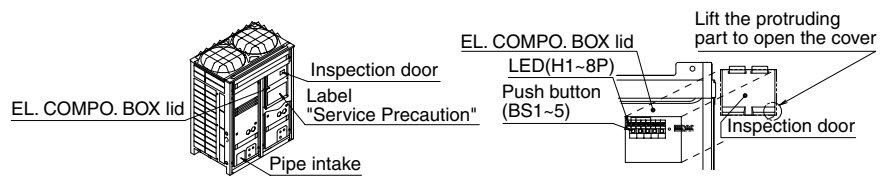
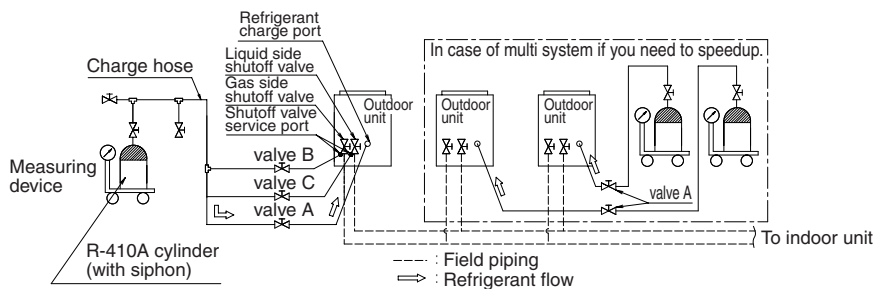

fig 32
fig 33
4. Perform the refrigerant charging operation following [Refrigerant charging operation procedure] as shown in page 137, and charge the remaining refrigerant of the “additional charging amount”. For performing the refrigerant charging operation the push button on the PC-board (A1P) of outdoor unit (In case of multi system master unit) are use. (See the figure 32) In addition, the refrigerant are charged from the refrigerant charge port via the valve A. (See the figure 33)
If you need to speed up in case of multi system, connect the refrigerant cylinders to each outdoor unit as shown in the figure 33.
STEP1 Open the liquid and gas side shutoff valves (The valve A~C must be closed. The valve A~C means the valves in the figure 33.)